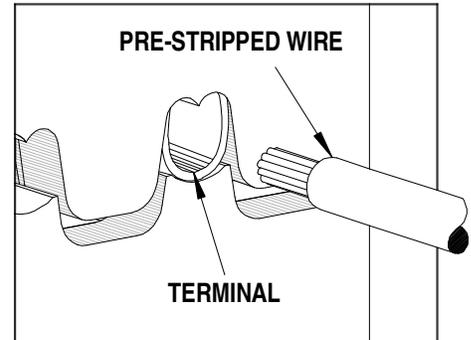

Figure 1
2. Partially close the tool until the terminal is held in place. See Figure 1.